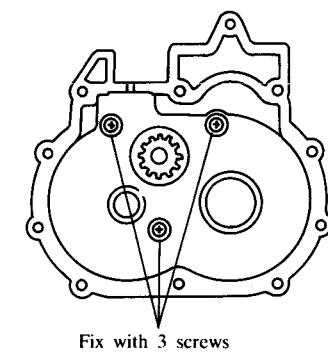

Fig. 52
(2) Mount the gear box to the motor with the three screws (4×25) (Refer to Fig. 52)